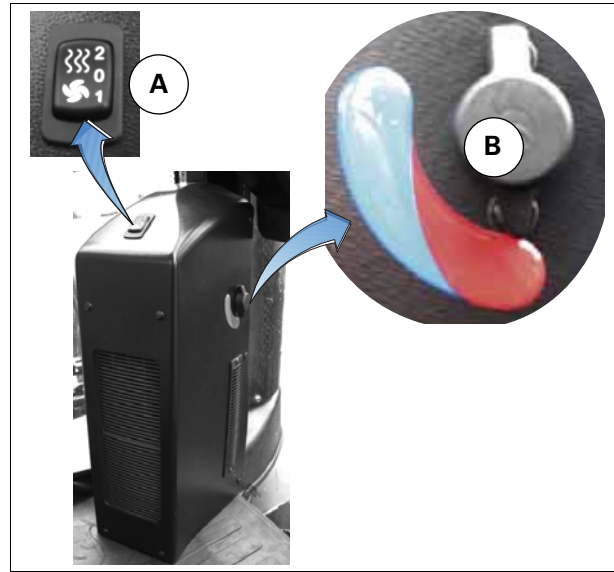

Fig. 66.
To set the temperature (blue zone, cold/red zone, hot), turn the control knob (B) fig. 66.